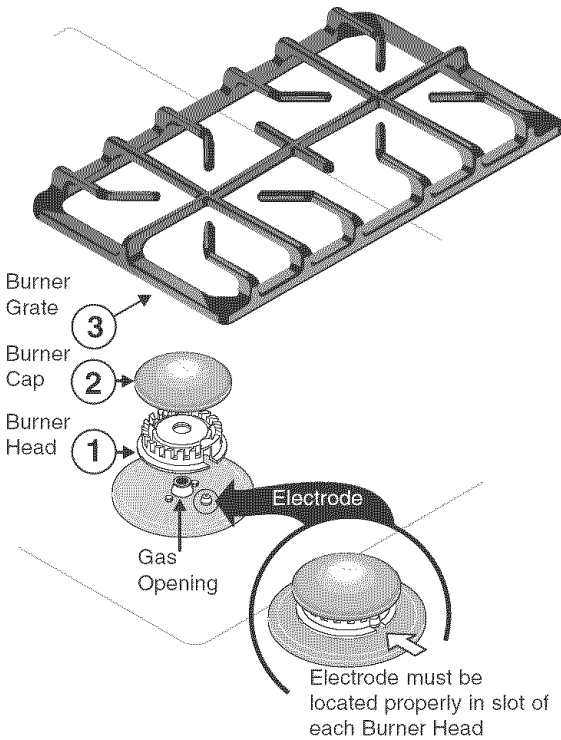

Figure 2
1. Place all 6 Burner Heads in the correct locations (See Figure 1). Make sure that the correct Burner Head is placed with the corresponding Gas opening and that the Electrode is located properly in the slot of each Burner Head (See Figure 2). Proper Burner Head placement insures that each Burner will have the correct spark required for surface gas ignition.
2. Place the correct Burner Caps at each of the burner locations (Burner Cap Pilot Hole must face up). Each of the 4 (four) Burner Heads **MUST** have a Burner Cap installed to insure proper ignition and gas flame size and must be in place with the Pilot Hole facing up **BEFORE** placing the Burner Grates (See Figure 2).